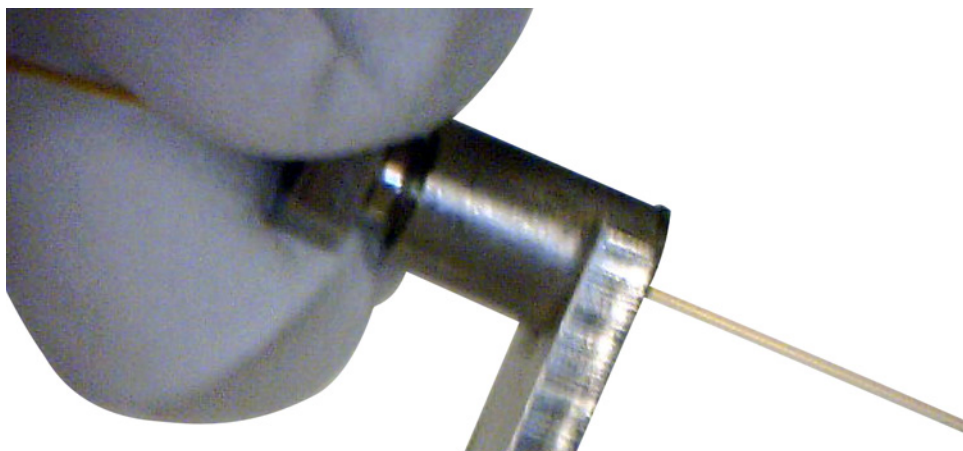

Figure 12. Thread the internal nut onto the swaging wrench
- 2 Thread the internal nut into the swaging wrench with the column protruding out of the back of the wrench (see Figure 12)